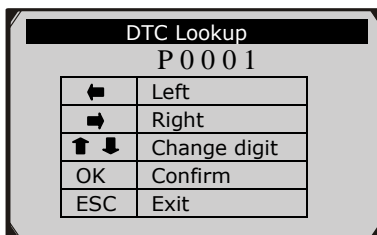

Figure 3.2
- From **DTC Lookup** screen, use the **LEFT/RIGHT** button to move to the desired character, use the **UP/DOWN** button to change selected digit/character and press the **OK** button to confirm. (Figure 3.2)